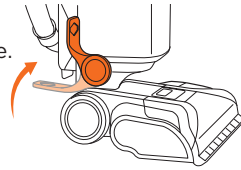

fig. 1
1. Insert pole into the top of unit until it clicks into place (**fig. 1**).